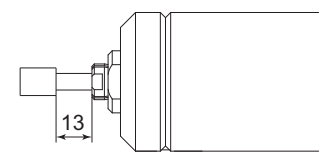

Fig. 13
- Do not exceed 13mm of overhang for mounted grindstones as shown in Fig. 13. If the overhang must exceed 13mm, reduce the motor speed in accordance with Table 2.